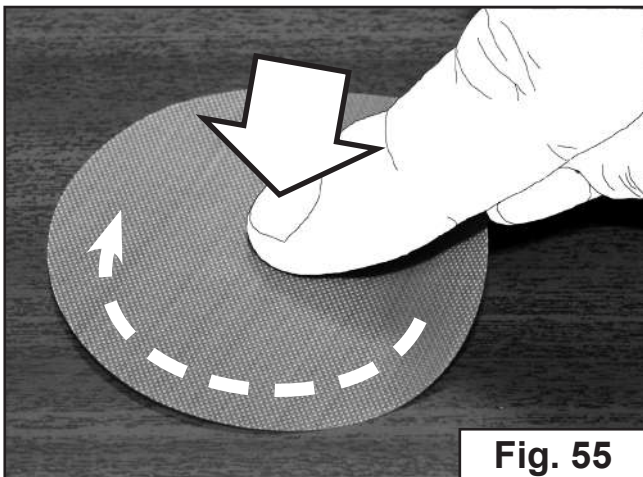

Fig. 55
2. Wipe smoothly the questioned surface: Press the swab slightly with your index finger to the surface to be examined and carry out several circular motions (Fig. 55).